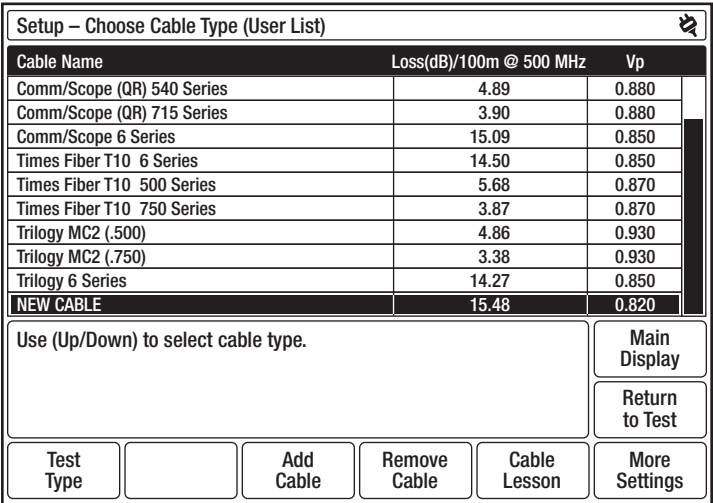

Figure 3-7: Setup – Choose Cable Type (User List)
- 7. Press **Done** to return to the **Setup – Choose Cable Type (User List)** menu, where your completed cable type appears on the User List (Figure 3-7).